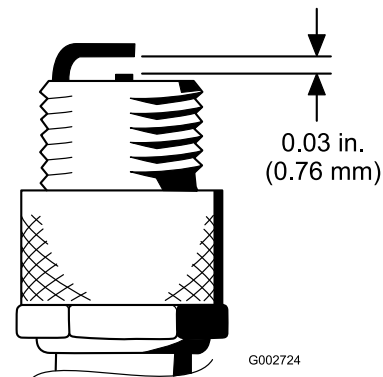

Figure 37
4. Set the air gap between the center and side of the electrodes at 0.030 in. (0.76 mm) (Figure 37).